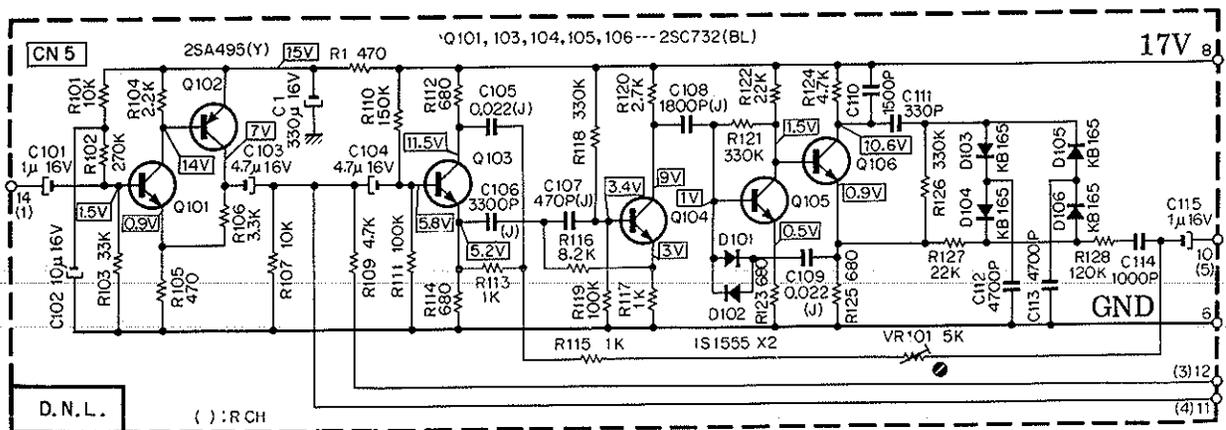
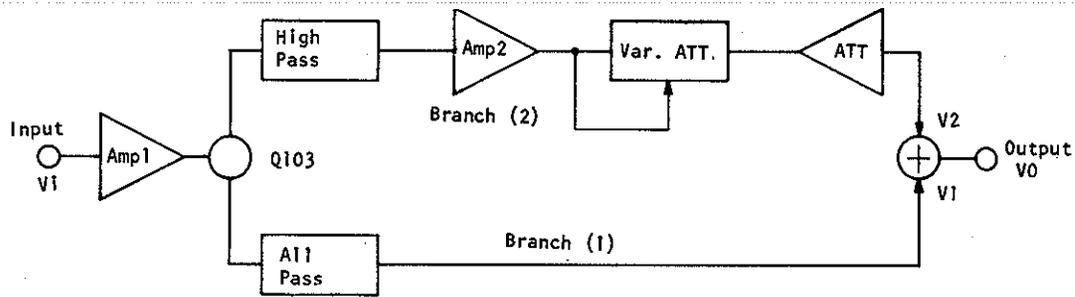

Fig.7 Dynamic Noise Limiter Circuit Diagram
Fig.8 Dynamic Noise Limiter System Diagram
Fig.7 shows the circuit for the dynamic noise limiter (DNL). Its system diagram is shown in Fig.8. Input terminal 14(1) can be connected with the output of the mixing amplifier or that of the playback mode Dolby processor by the selection of MONITOR switch. Terminal 11(4) is a by-pass output which is independent of the dynamic noise limiter and becomes the input for METER AMP. The output of dynamic noise limiter 10(5), and the other output independent of it, 12(3) are applied to the DNL switch. A signal selected by this switch becomes the input to LINE AMP. In this system, noise reduction is performed only in the playback mode.